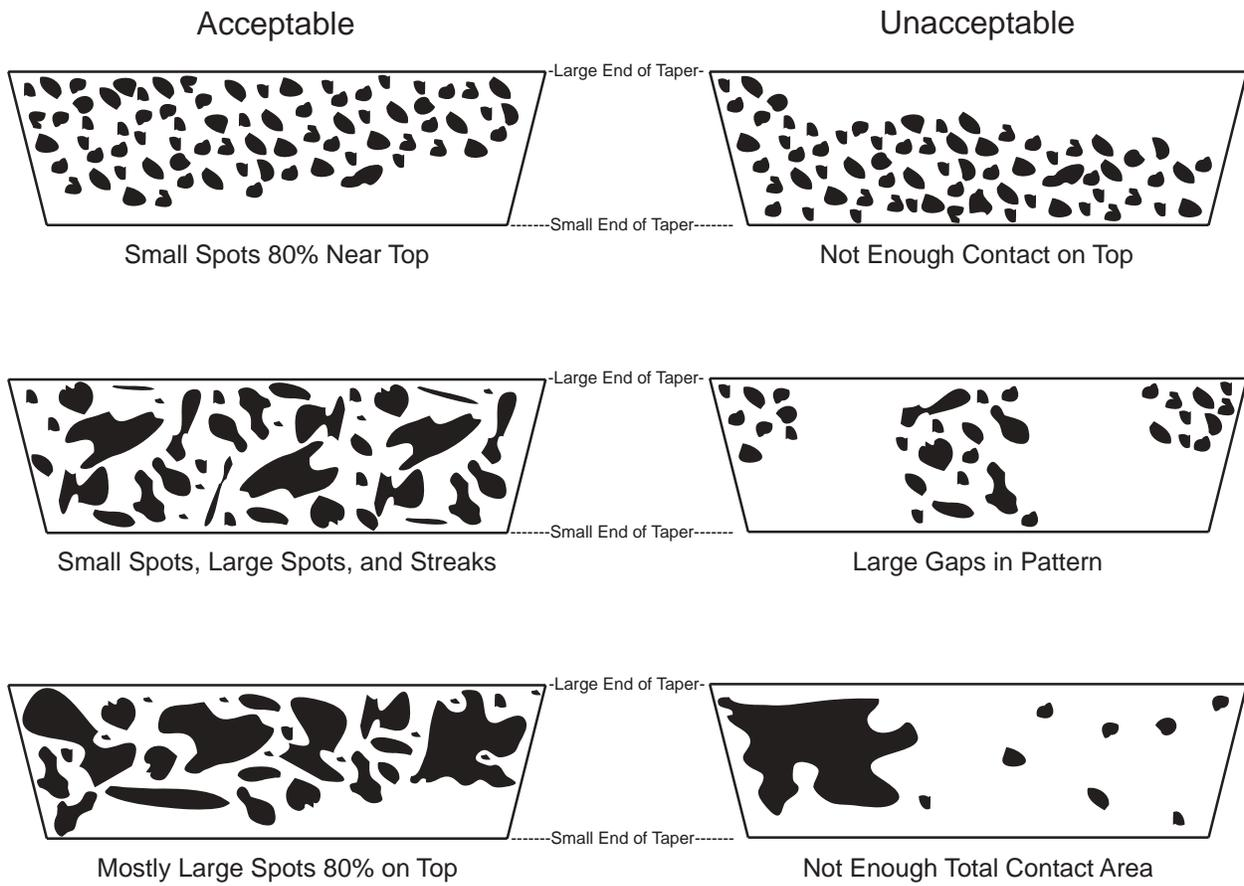

Figure 23. Dye Contact Pattern Samples
6. Evaluate the contact pattern on both tapers. See Figure 23 for guidance on acceptable contact patterns. The surfaces should match approximately 80% of the total tapered area.
Note: It is important that the contact should be biased toward the larger diameter end of both tapers. If contact is predominant at the small end, the shaft may be overstressed locally and may fail. Contact Twin Disc if the taper contact pattern is not in accordance with Figure 23.